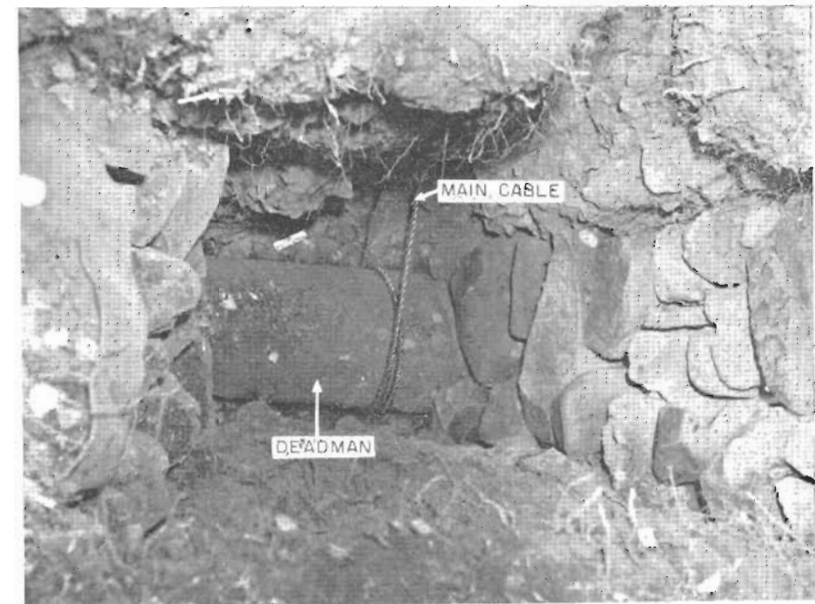

FIGURE 25. Partial backfill of deadman. Trench is left open at point where cable is attached to adjust main-cable length and cable clamps.
- (e) Partially backfill deadman excavation (see fig. 25).